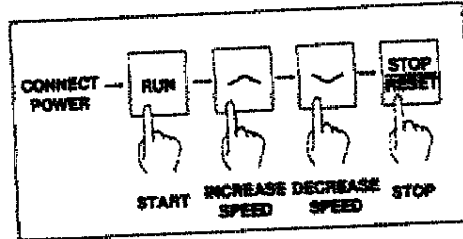

Figure 9 — Operation/Run Diagram
2. Push Run key. Digital display will stop flashing and indicate 0.0. (See Figure 9.)